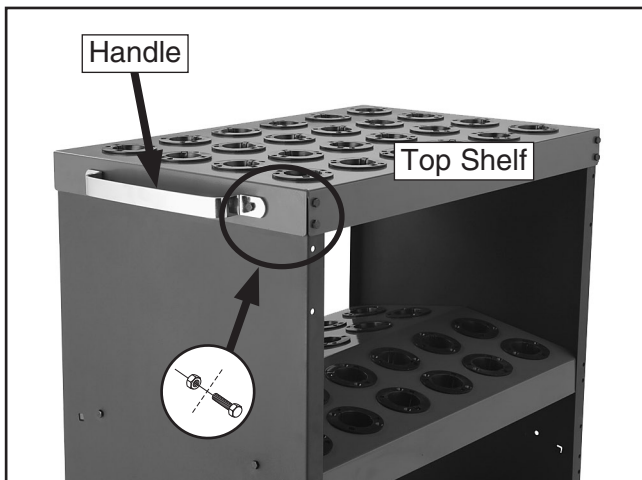

Figure 8. Top shelf and handle installed.
- Slide the top shelf over the top of the side panels, position the handle on one side, as shown in **Figure 8**, then secure the top shelf and handle in place with 12 hex bolts and lock nuts.